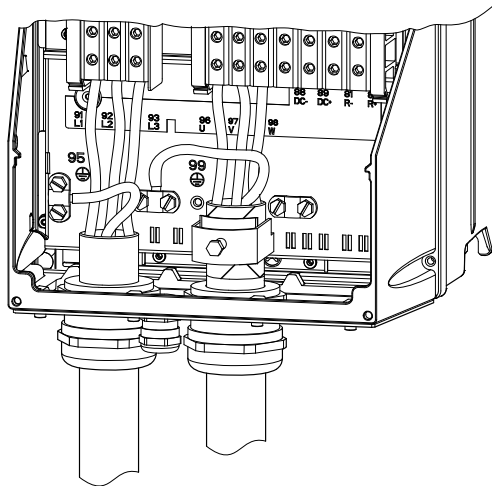

Fig. 129 Mains and motor connection, C1 and C2
1. Connect the earth conductor to terminal 95 (PE). See fig. 129.
1. Connect the earth conductor to terminal 99 (PE). See fig. 129.
2. Connect the motor conductors to terminals 96 (U), 97 (V), 98 (W).